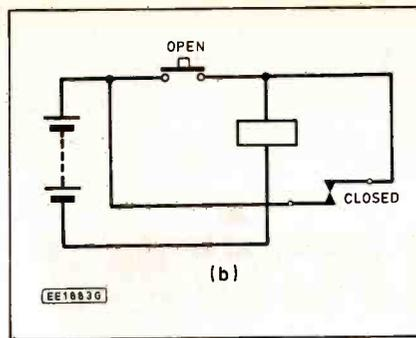

Fig. 12.3. Relay latch circuit
In digital electronics we use **feedback** to store events. Feedback is not entirely new to you (although you may not know it) because we used it in the experimental relay circuit of Part 6 (reproduced here as Fig. 12.3) to latch the relay contacts closed after the release of the push button switch. This circuit can be regarded as a basic memory device; the output (the closed relay contacts) is fed back to
at either side of the debounce circuit. As soon as the input switch changes state the output of the second inverter (2) feeds back to lock it in the state according to that switch position (the feedback acts like the relay circuit of Fig. 12.3), thus ignoring the spurious signals from the switch contacts.